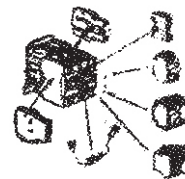

Figure 3
6. STC8 AC contactor can be combined with 3SCA1 3SCA2 3SCA3 3SCA4 3SCA5 3SR1 3SRJ8 and suit to different requirement combination on figure 3.